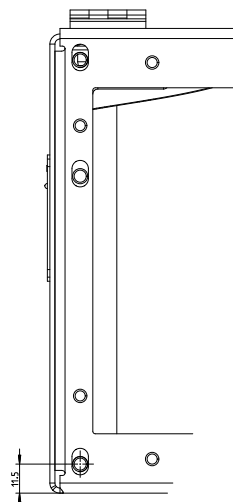

Fig. 120
- In Fig. 120 you can see the position of the mounting brackets when a size 2 adapter is attached.